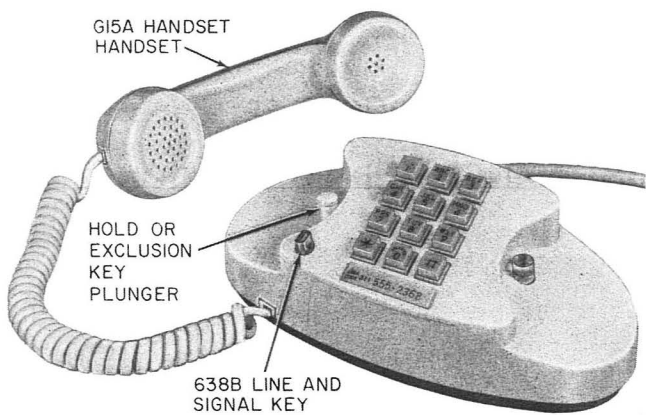

Fig. 3—2713BM Telephone Set
2.02 The 2713B (MD) or 2713BM telephone set (Fig. 3) is equipped with a combination 2-line pickup key which when depressed can be used as a signal key. [Signal feature does not come factory wired for use (Fig. 15 and 16).] The white switchhook plunger when lifted will mechanically hold either line at that telephone.
set—permits line selection by turning, signaling by depressing (Fig. 3 and 6).
- **Hold Key Plunger:** 2713B (MD) or BM set—provides for mechanical hold on either or both nonselected CO line (Fig. 3).